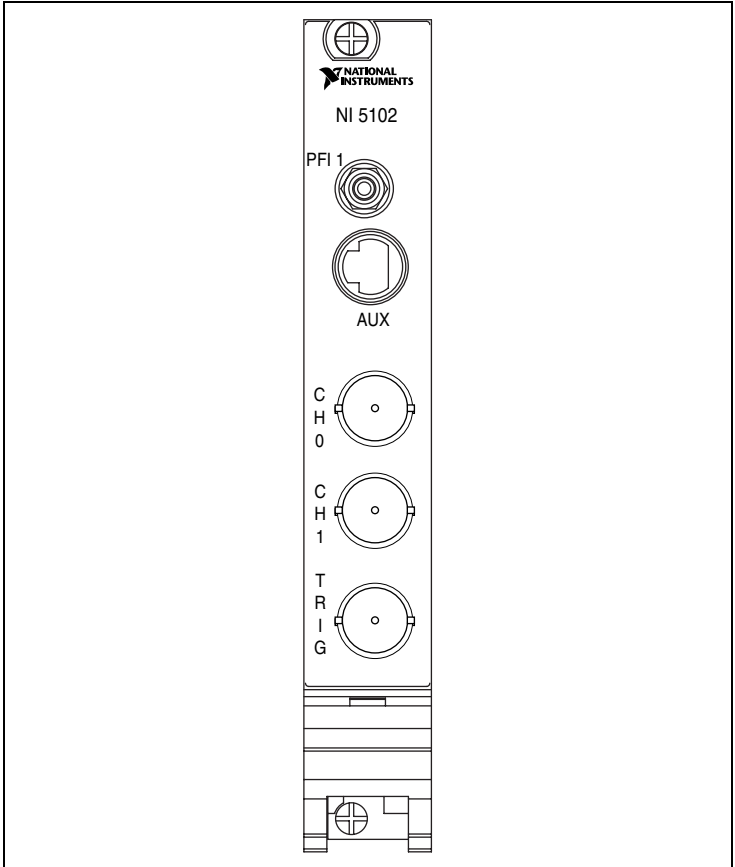
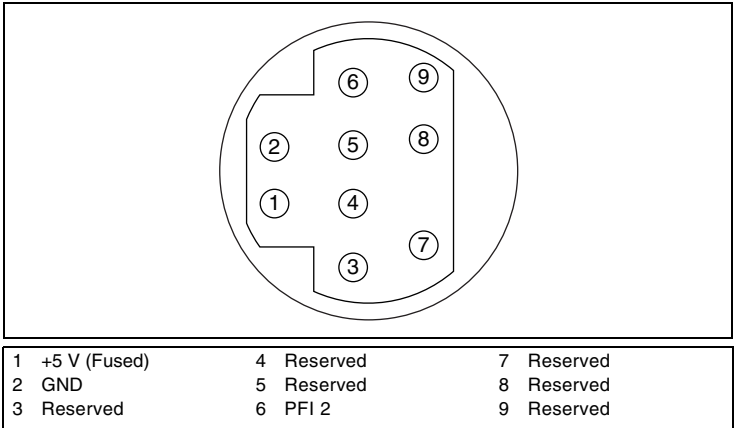
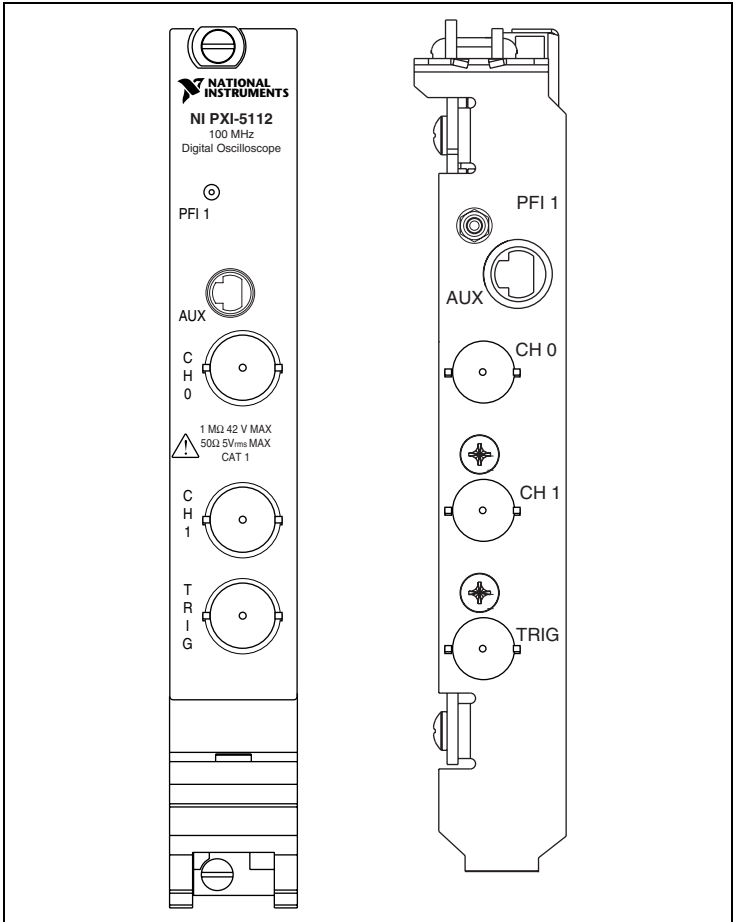
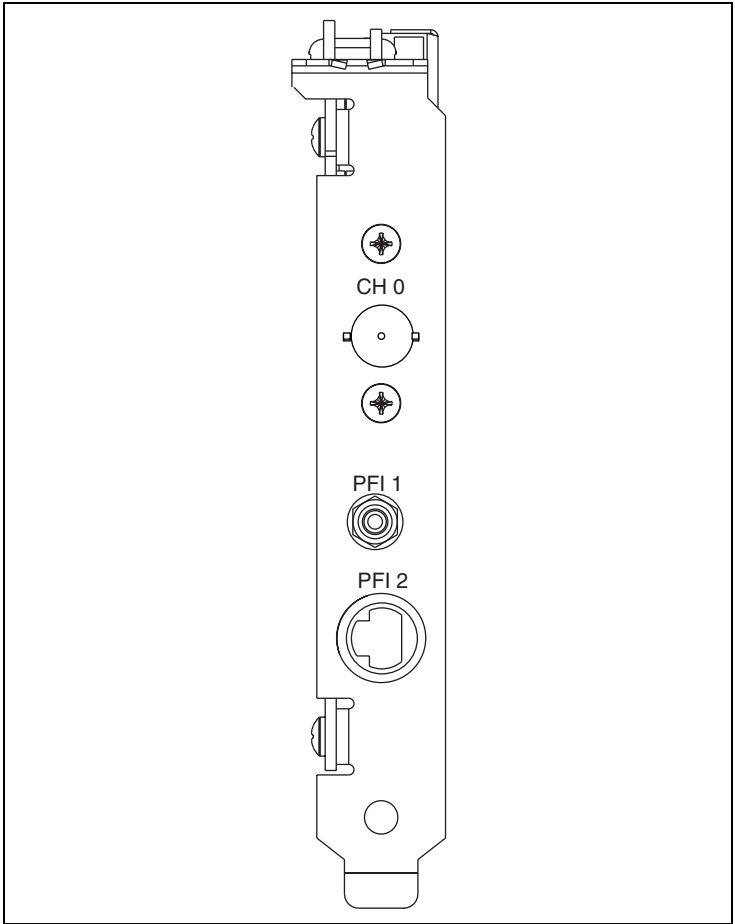

Figure 8. NI PXI-5102 Front Panel
Figure 9. 9-Pin DIN Connector for NI PXI-5102, NI PXI/PCI-5112, and NI 5911
Figure 13. NI PXI/PCI-5112 Front Panels
Figure 17. NI PCI-5911 Front Panel
- ◆ **NI PXI-5102**—Figure 8 shows the NI PXI-5102 front panel. Refer to Figure 9 for the AUX connector pinout information.
Figure 9 shows the pin assignments for the 9-pin DIN connector on the NI PXI-5102.
The NI 5112 is available for both PXI and PCI buses. Figure 13 shows the front panels for the NI PXI-5112 and the NI PCI-5112. Refer to Figure 9 for the AUX connector pinout information.
Figure 17 shows the NI 5911 front panel. Refer to Figure 9 for the PFI 2 (AUX) connector pinout information.